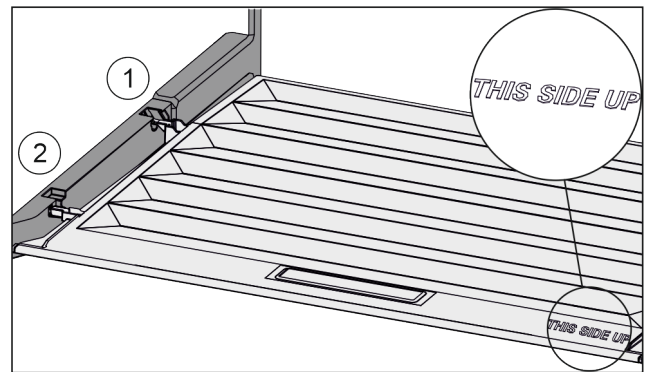

Fig. 36
- Insert the lip of the cover over the opening of the rear bracket Fig. 36 (1) and click into place Fig. 36 (2).